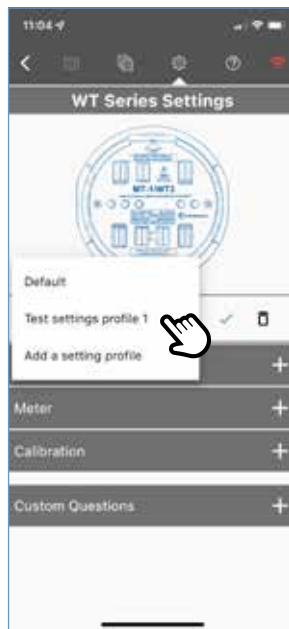

Figure 2
**Select a profile:** Click the dropdown menu and select the name of the needed profile (Figure 2).